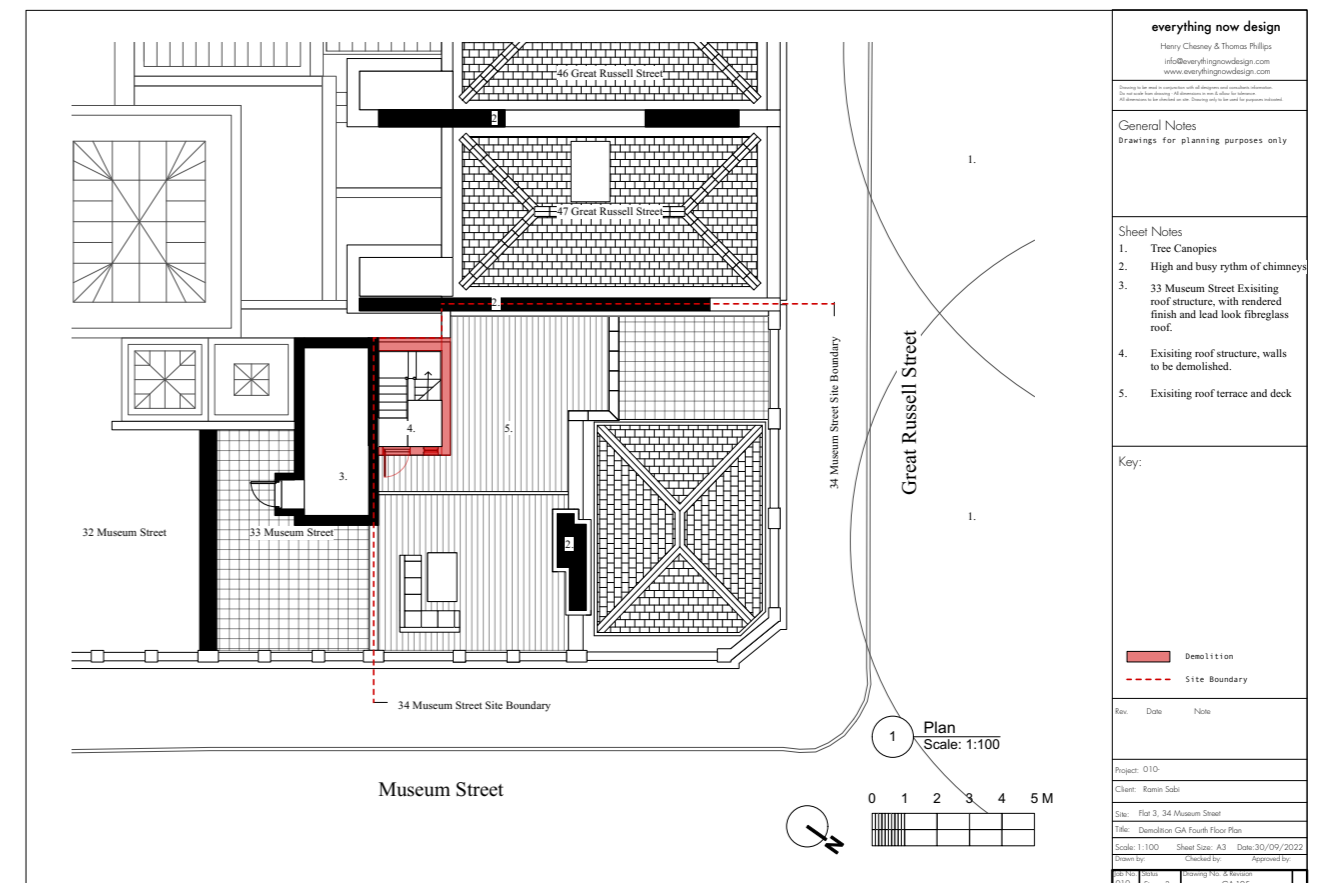

Fig. 7. Proposed demolition at 4th floor level
- Carefully remove and dispose of all existing windows in the existing roof structure. Structure is deemed to be a recent addition with no original fabric and not in keeping with host building (Figs. 7 & 8).